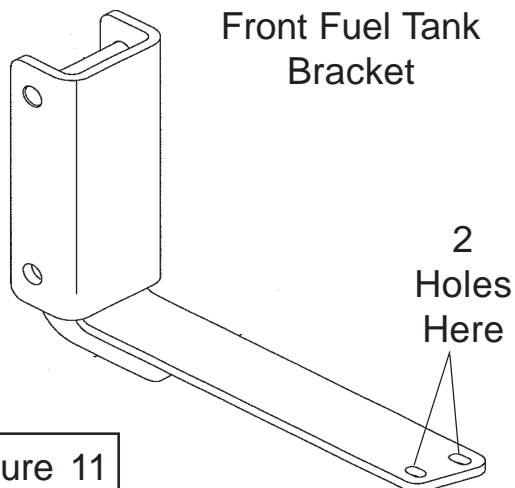
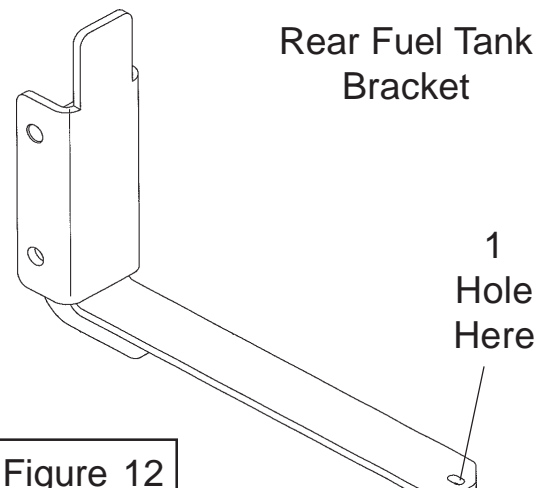

Figure 11
Figure 12
3. Install Replacement Fuel Tank Mounting Brackets. (If Required, See Assembly Drawings sent with unit) Remove the factory fuel tank mounting brackets, there are two new mounting brackets that will be supplied to mount the new tank. There is a front and a rear bracket (See Figure 11 & 12).
5. Install the new mount brackets to the tractor frame. (If Required, See Assembly Drawings sent with unit) The tank mounting brackets will bolt to the tractor the same as the factory brackets that were removed. Make certain that the brackets are installed correctly, the front bracket will have 2 outer holes (same as the tank see Figure 11 & 13). The rear bracket will have 1 hole in the outer end (same as the tank, See Figure 12 & 13)